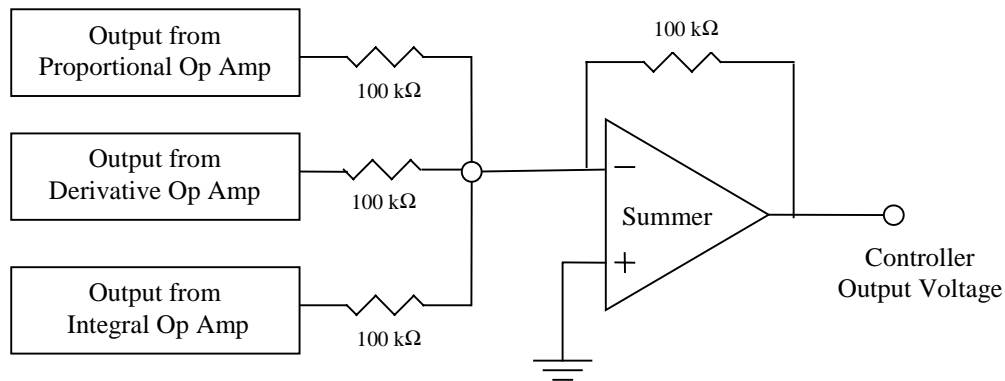

Figure 21a: Circuit diagram for summer
13. Connect the summer as shown in Figs. 21a-b.